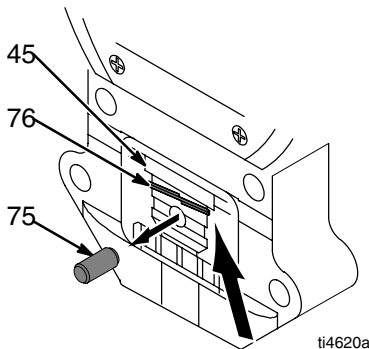

Fig. 9
8. Fig. 9. Slowly rotate fan blade on back of motor until connecting rod (45) near bottom of stroke.